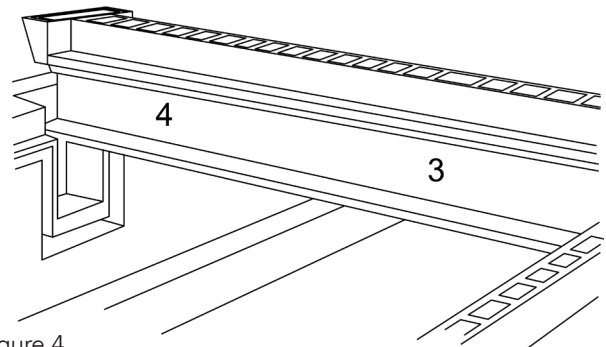

Figure 4
- Place beams into wallboxes so that numbers marked on beams and wallboxes correspond. (Figure 4)